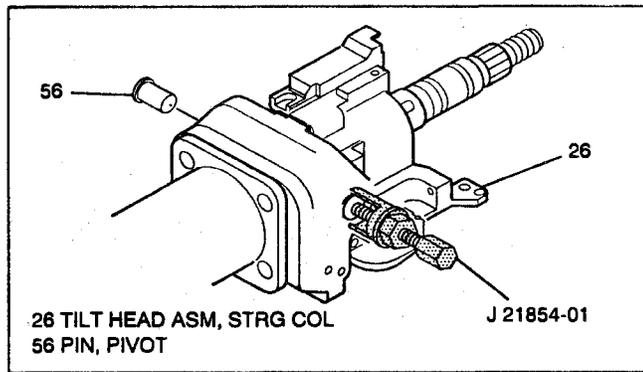

Figure 27 - Removing Pivot Pin
- Tighten screws (55) to 9 N·m (80 lb.in.).
4. Evo sensor asm (62), Adapter & bearing assembly (60) to steering column jacket assembly (58).
- Position tab on adapter & bearing assembly (60) with slot in steering column jacket assembly (58) and push together. (See Figure 27).
5. Cplg & Strg shaft assembly (64) or Yoke & Inter Strg shaft assembly (65) (Depending on Model) to shaft assembly (37).